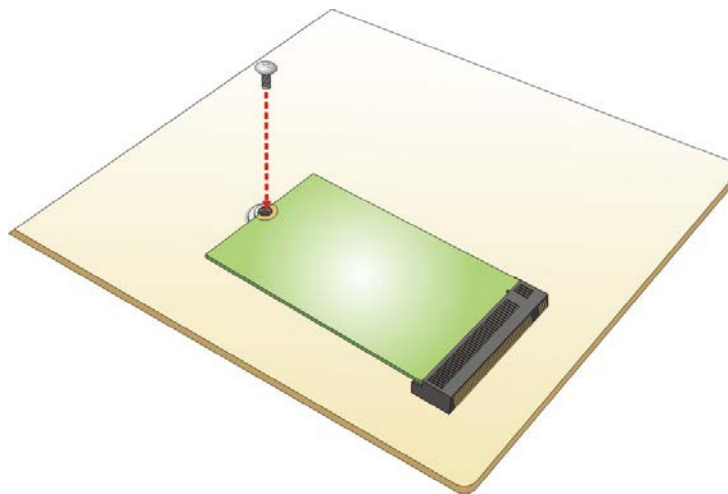

Figure 4-11: Securing the M.2 Module
Step 3: Secure the M.2 module with an M2*3 retention screw (**Figure 4-11**).